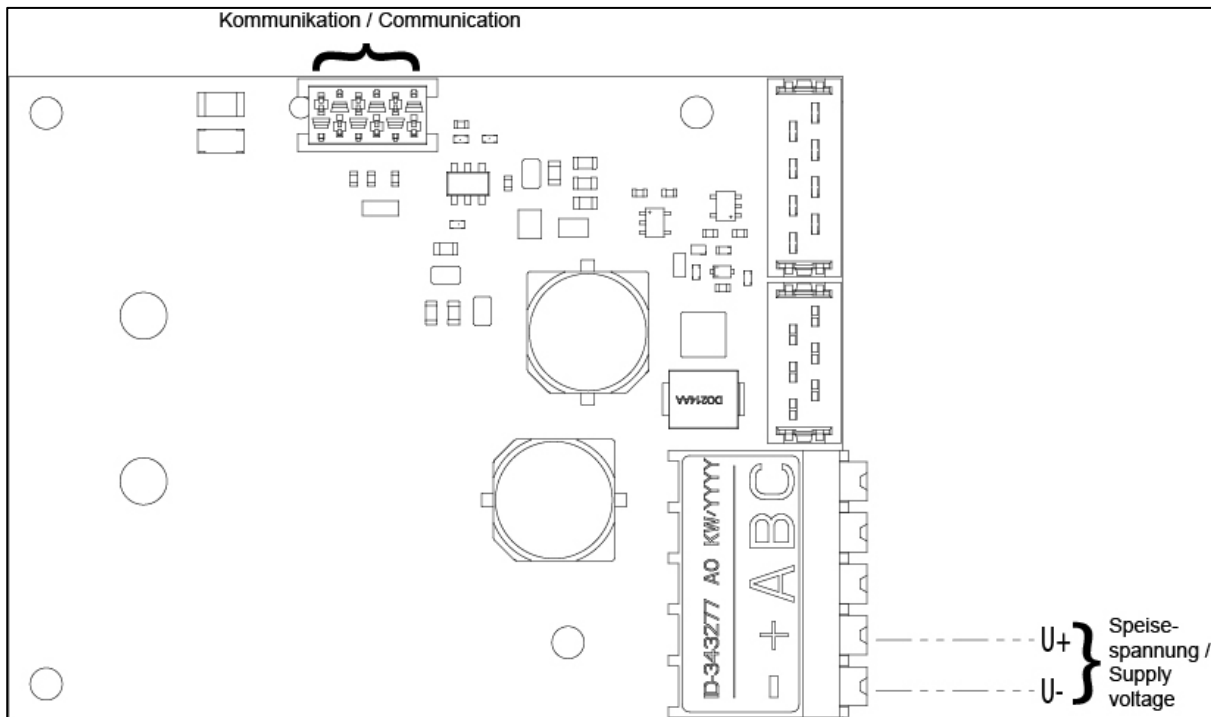

Fig. 10: Connection plan motor electronics N84ANDC-B
2. Electrical connect of the pump according to Fig. 10, page 20.